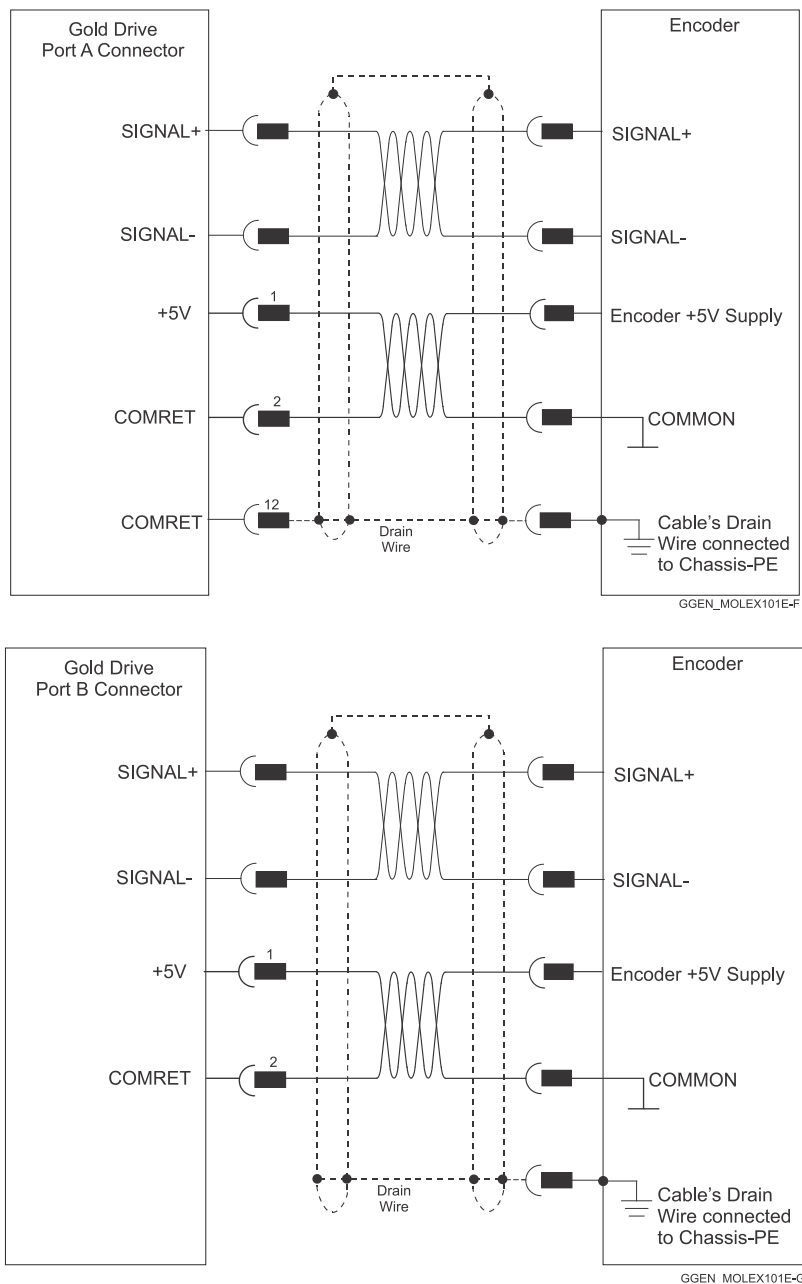

Figure 8: Feedback Port A and B Cable Assemblies
- a. At the drive, connect the feedback drain wire to one of the COMRET terminals in the shrouded feedback connector (Figure 8).